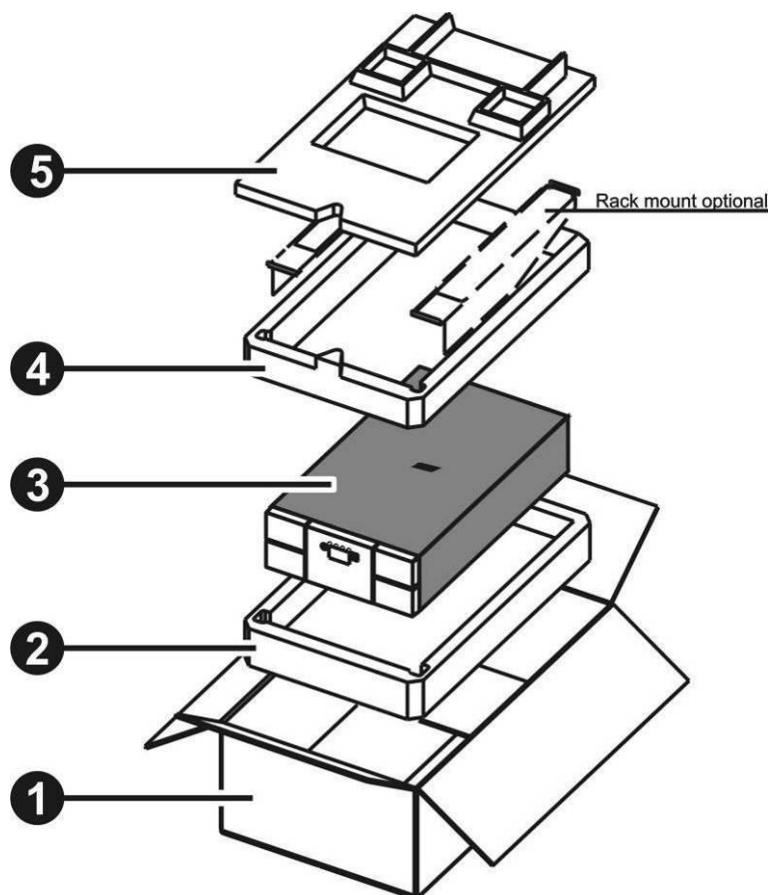

Figure 149 Packaging the library (4U)
- For 4U libraries, see **Figure 149** below, **Table 28 on Page 162**.